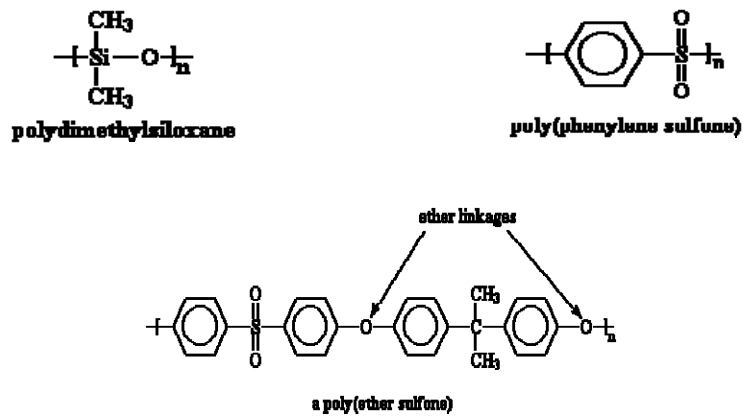

Figure 4: Structural formula of polydimethylsiloxane, poly(phenylene sulfone) and poly(ether sulfone)
4. [a] Polydimethylsiloxane and poly(phenylene sulfone) have a very distinctive different in terms of their glass transition temperature (T_g) value. Discuss why the differences exist between them with respect to their molecular structure. Consequently, poly(phenylene sulfone) (PPS) is known to have a serious processing problem and polymer scientist has introduced ether linkages into the backbone of poly(phenylene sulfone) which is then known as poly(ether sulfone) with a chemical structure as shown in Figure 4. Introduction of ether linkages has reduced the T_g of PPS from 500°C to 190°C. Explain the function of ether linkages in reducing the T_g of poly(phenylene sulfone).